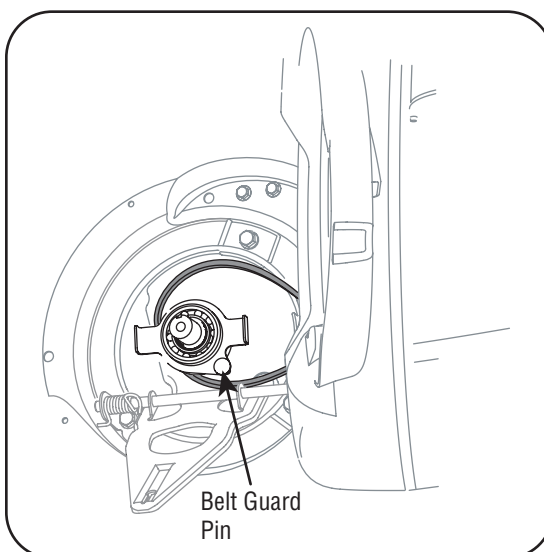

Figure 5-10
16. Place the belt between the two pulley halves on the crankshaft. Make sure to route the belt inside the belt guard pin. See Figure 5-10.